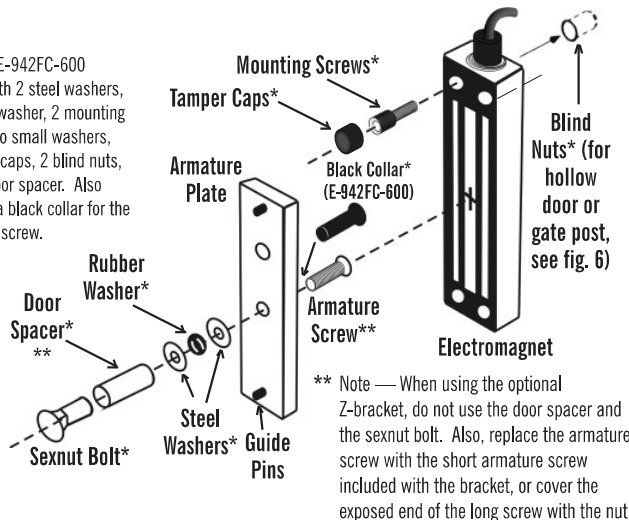

FIG. 2 - Installation on a single-swing gate
1. **Single-swing gate** (fig. 2) — Gate swings on one end, and comes to rest on a fixed gate post when closed. In this case, a typical installation has the electromagnet fixed to the gate post, and the armature connected to the free end of the gate with a Z-bracket.